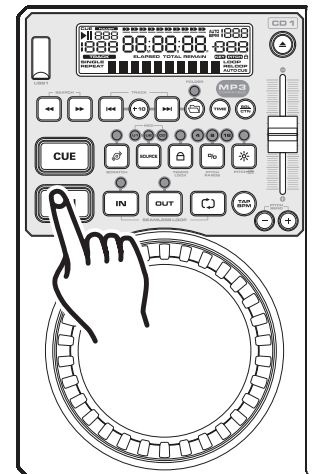
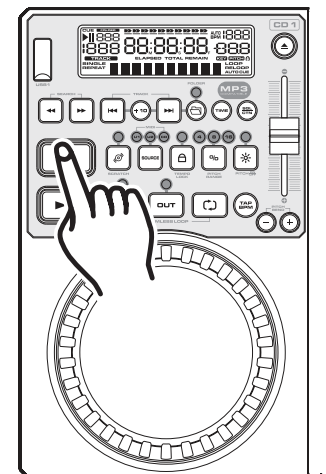
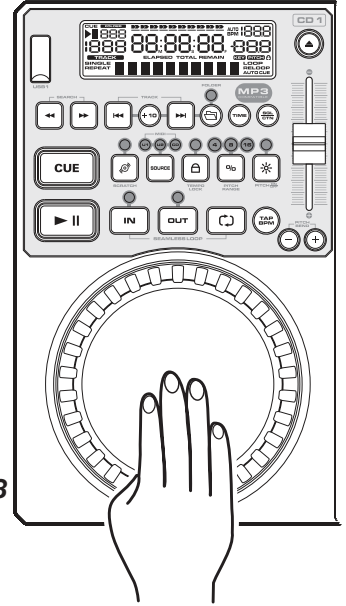

Figure 11
Figure 12
Figure 13
3. STARTING PLAYBACK - Figure 11
4. PAUSING - Figure 11
6. STOPPING PLAYBACK - Figures 11 & 12
This feature allows you to scroll through a track frame by frame, allowing you to find and set a starting cue or loop point. To use the scroll function you must first be in Pause Mode (see section 4) or Cue Mode (see section 8). Once you are in Pause or Cue mode, turn the *JOG WHEEL (11)* to scroll through the track (Figure 13). Turning the wheel in a clockwise direction will advance the frame search and turning the wheel in a counter-clockwise direction rewinds the frame search. When you use the *JOG WHEEL (11)* the monitor (headphone level) function allows you to hear what you are scrolling through. Once you reach your desired starting point you can set a cue (starting) point by pressing the *PLAY/PAUSE BUTTON (13)* as in Figure 11. Pressing the *CUE BUTTON (15)* as in Figure 12 will now return you to the point you just set.